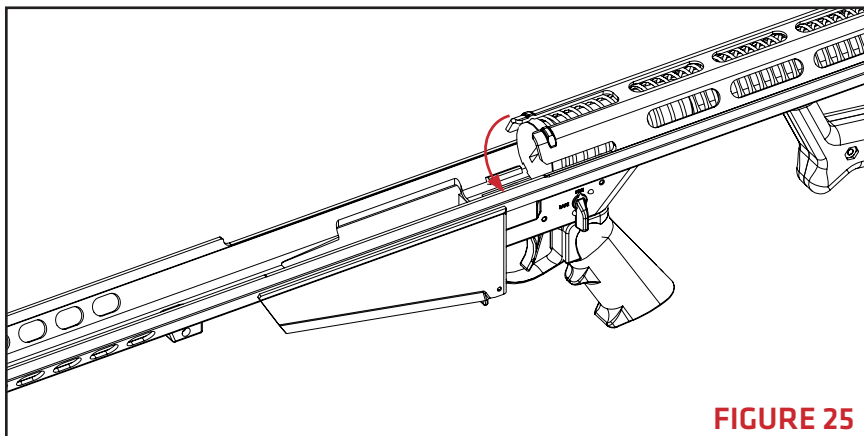

FIGURE 25
2. Push the buffer and mainspring into the lower receiver in one continuous, fluid motion. Once pushed past the buffer stop, rotate the buffer to lock it behind the buffer stop. (**FIGURE 25**).